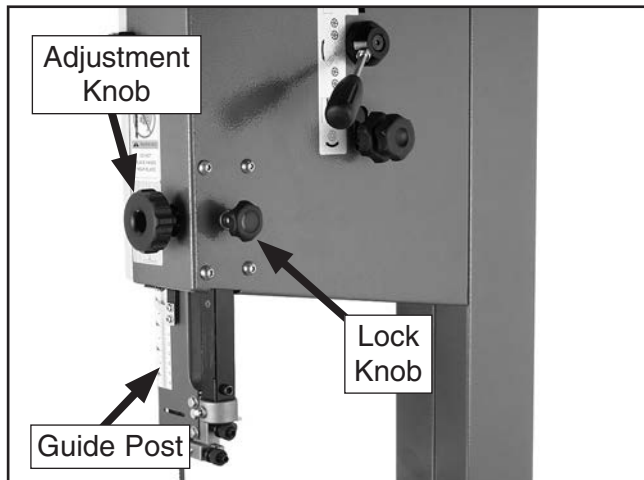

Figure 38. Guide post controls.
The guide post, shown in **Figure 38**, connects the upper blade guide assembly to the bandsaw. The guide post allows the blade guide assembly to move up or down via a rack and pinion. In order to cut accurately, the blade guide assembly must be no more than 1" from the top of the workpiece at all times—this positioning provides the greatest support to the blade.
2. Loosen the guide post lock knob shown in **Figure 38**.